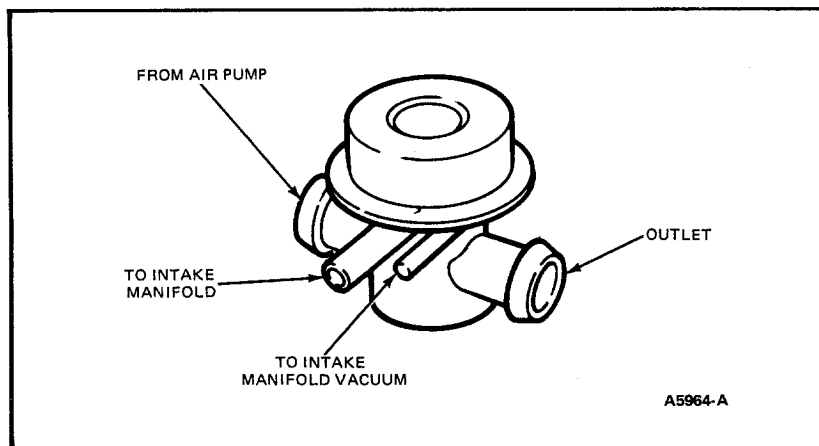

Figure 1 Anti-Backfire Valve
1. Disconnect the air supply hose from the air pump side of the valve (Fig. 1).